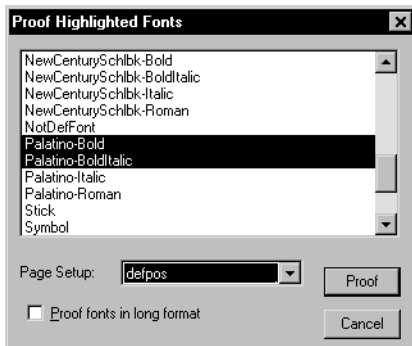

Figure 3.3 Proof Highlighted Fonts dialog box
1. From the **Fonts** menu, choose **Proof Fonts**. A window appears with a list of the available fonts, which the Harlequin RIP can use with any of its possible output devices. (See Figure 3.3.)